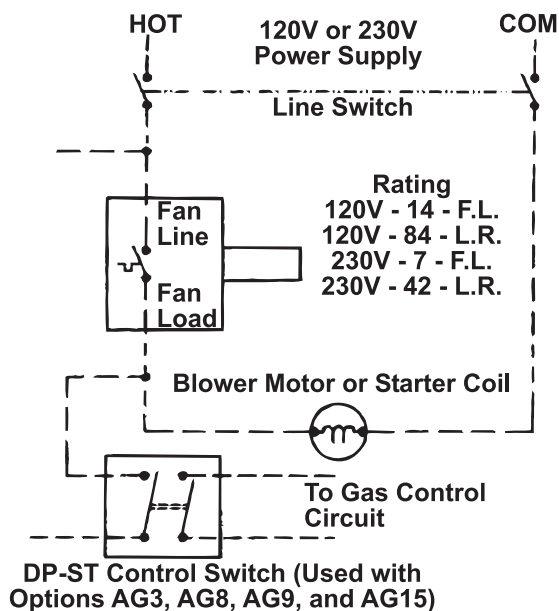

Figure 31. Typical Fan Control Wiring Diagram
- For proper operation, ensure that fan control wiring is in accordance with Figure 31 and the Electrical Connections for Field-Installed Options section.